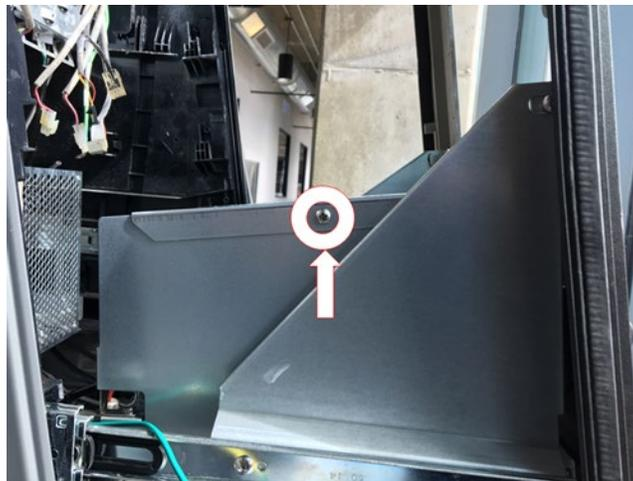

Figure 249
- 18) Route ground/bond wire up and over the inner top of the dispenser. See Figure 249